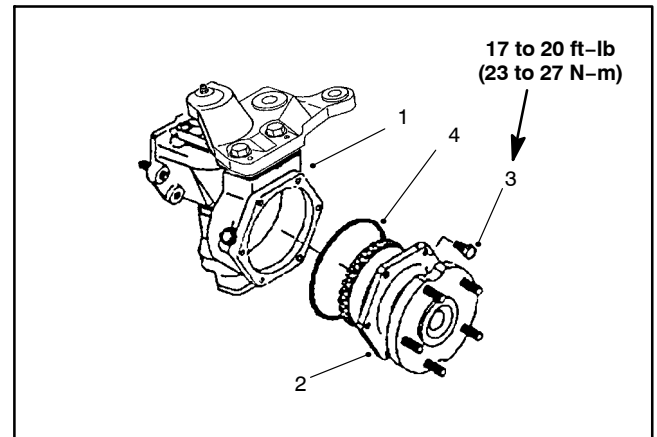

Figure 14
3. Remove the axle cover mounting screws. Remove the axle cover from the axle case as an assembly (Fig. 14).